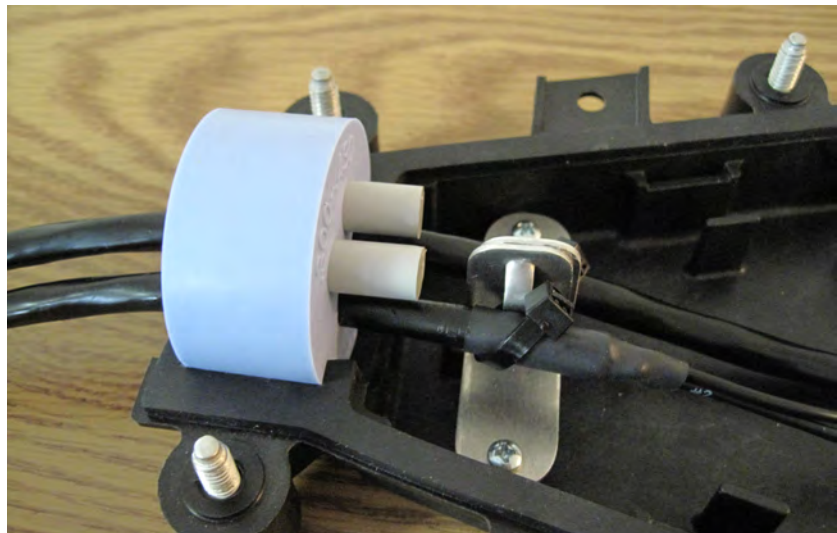

Figure 7 Attach Cables to Brackets
Step 7. Attach cables to "L" brackets using the provided wire ties (see *Figure 7*).